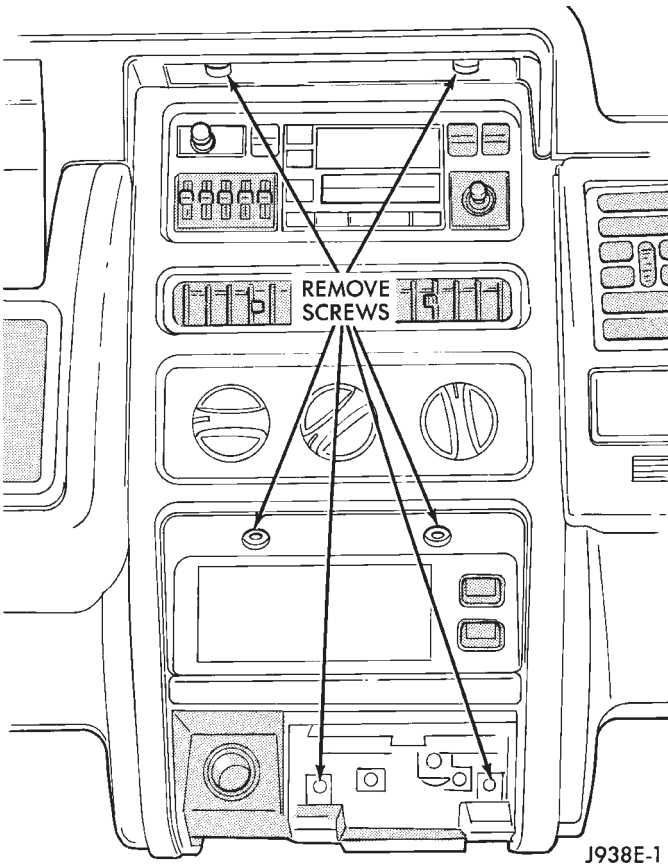
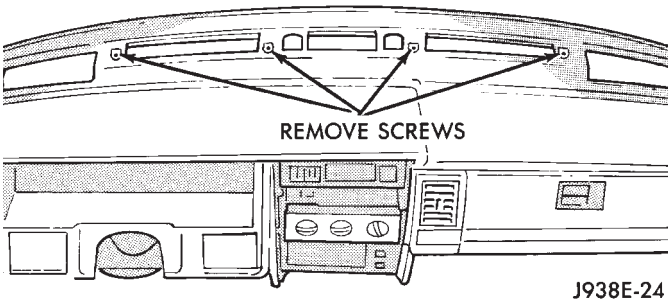

Fig. 2 Remove Center Bezel Screws
Fig. 3 Upper Dash Pad Attaching Screws
- (1) Disconnect negative cable from the battery.
- (2) Remove ash tray.
- (3) Remove 6 screws holding center cluster bezel (Fig. 2).
- (4) Remove center bezel.
- (5) Remove 2 screws holding dash pad located behind top of center bezel.
- (6) Gently pry defroster grille out of dash pad.
- (7) Unplug sensors (if equipped) and set defroster grille aside.
- (8) Remove 4 screws in defroster duct opening holding dash pad (Fig. 3).